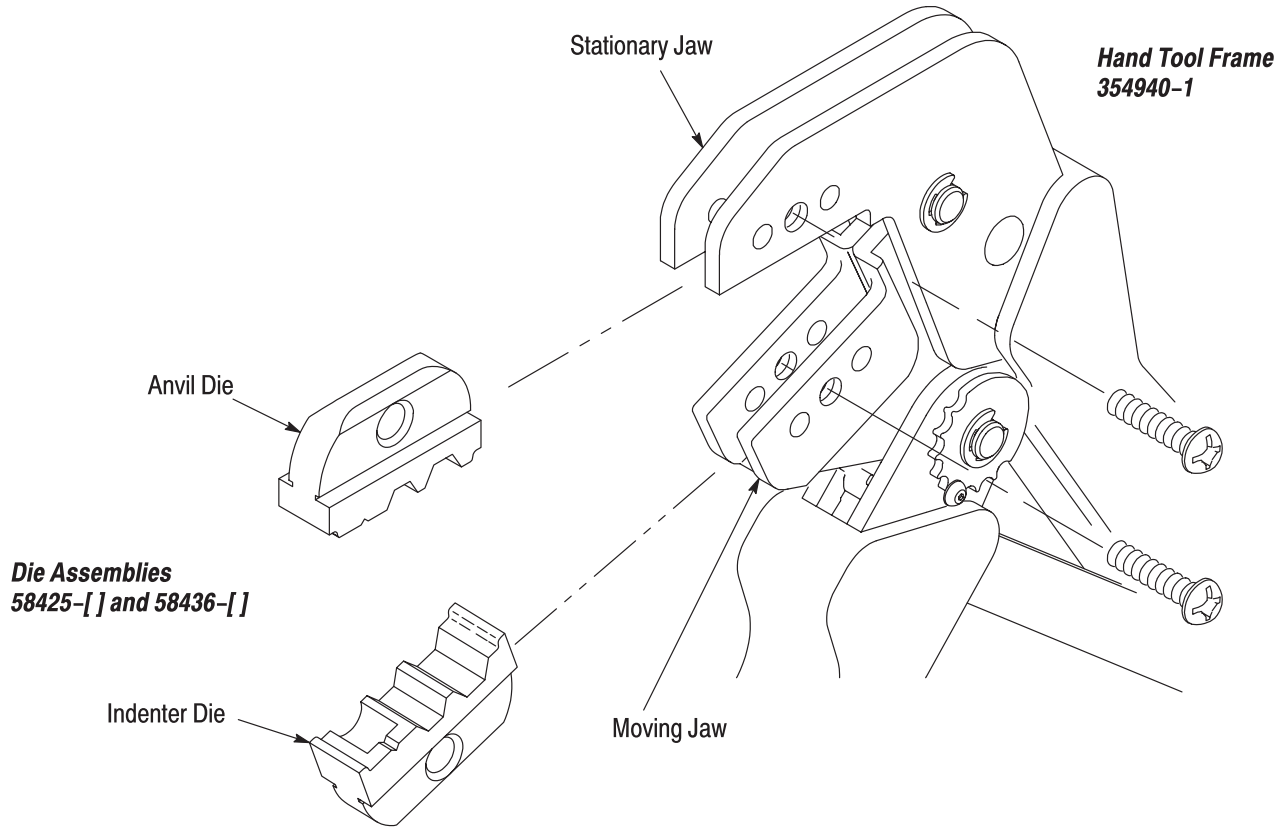

Figure 1
2. DESCRIPTION (Figure 1)
2. See Figure 1 for normal orientation of the dies. Insert the dies inside the tool jaws and align the retaining screw holes.
Customer-replaceable parts are shown in Figure 1. Available separately, PRO-CRIMPER Repair Kit 679221-1 includes a variety of pins, rings, screws, and springs. If the dies are damaged or worn excessively, they must be replaced. Order the repair kit and replaceable parts through your Tyco Electronics Representative, or call 1-800-526-5142, or send a facsimile of your purchase order to 1-717-986-7605, or write to: